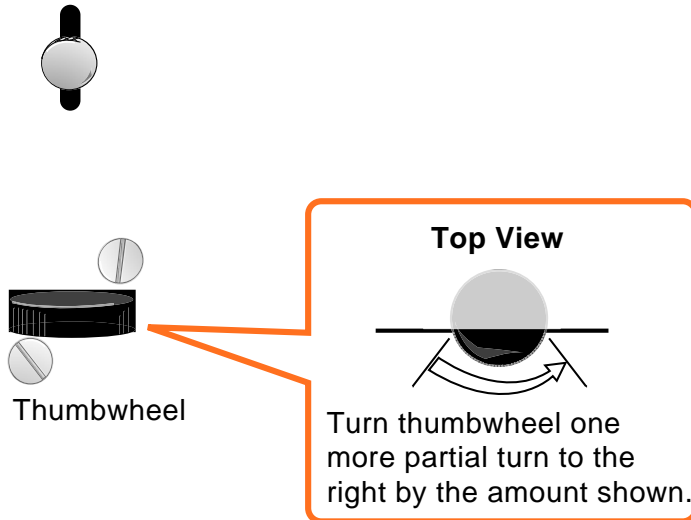

Figure 5-4. Thumbwheel Rotation
4. Turn the thumbwheel to the right until the clicking just stops. Then turn it one more partial turn (see Figure 5-4).